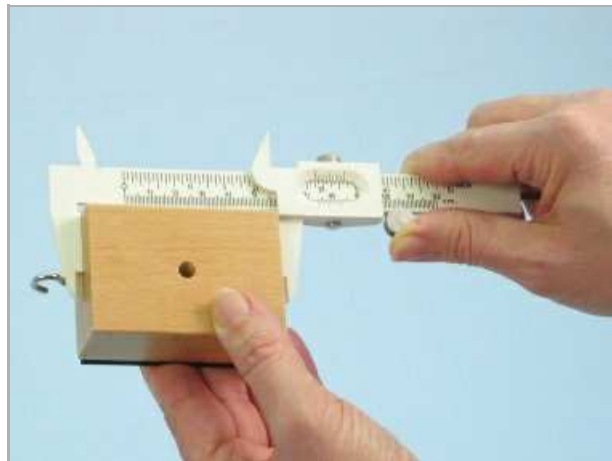

Fig. 1
- Determine the length a and the width b of the friction block with the vernier caliper (Fig. 1). Record these values in Table 1.